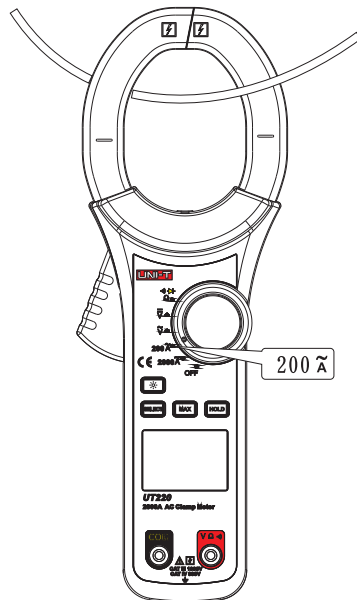

Figure 9
7. 200A AC current measurement (200 \tilde{A}) (See Figure 9)